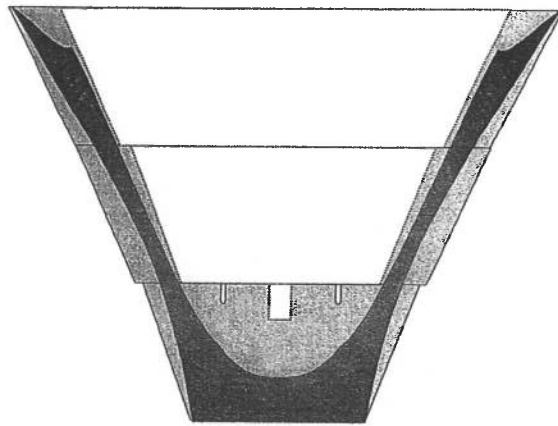

Figure 4: Three-section sample bowl design
7. Take a second sheet of paper, and mark the outline of your taped paper sections. Sketch in your final desired shape, based on the wood available. If desired, fold the paper in half along the center axis, and cut out to see the final profile. See Figure 4.